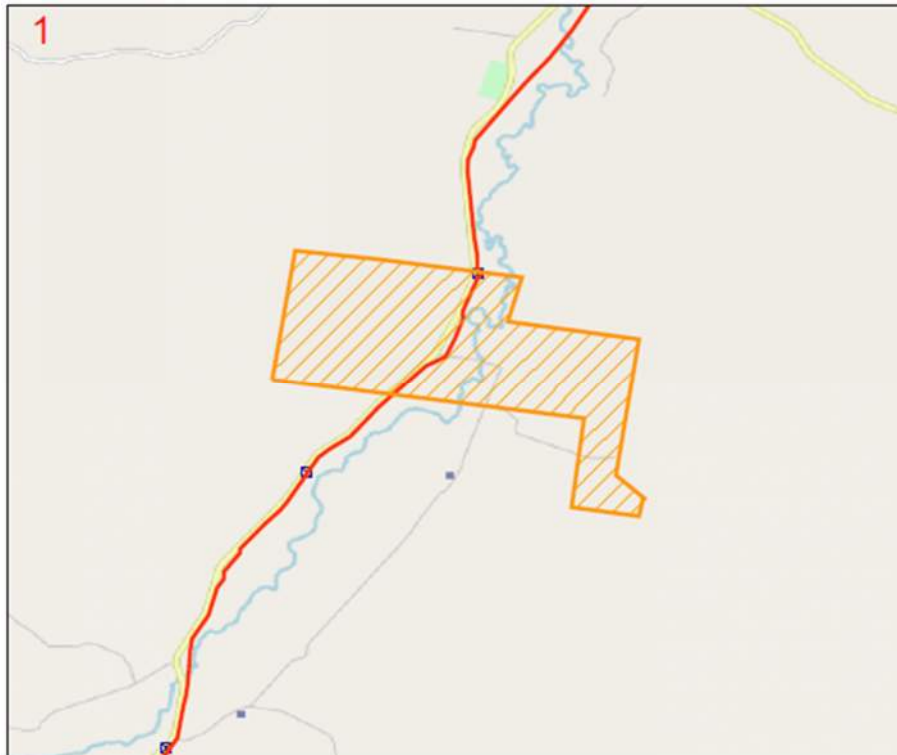

Figure 20: APA line at Centre North of Site
- An APA high pressure gas transmission pipeline partially through the Centre North extent of the project site along Leadville Rd (Black Stump Way) (refer Figure 20).